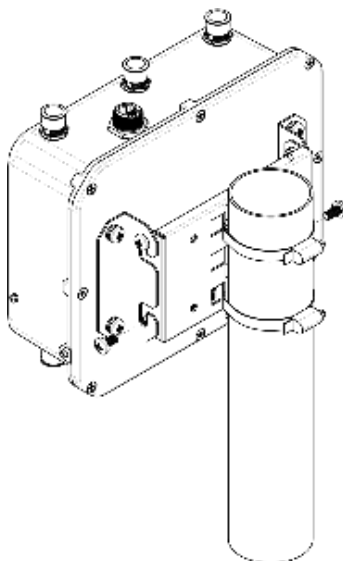

Figure 10 – Mounting the device on a mast/pole
a) Install the device on the top untwisted screws of a bracket attached to a mast/pole, see Figure 10.
b) Install screws to the bottom bolthole, see Figure 10.